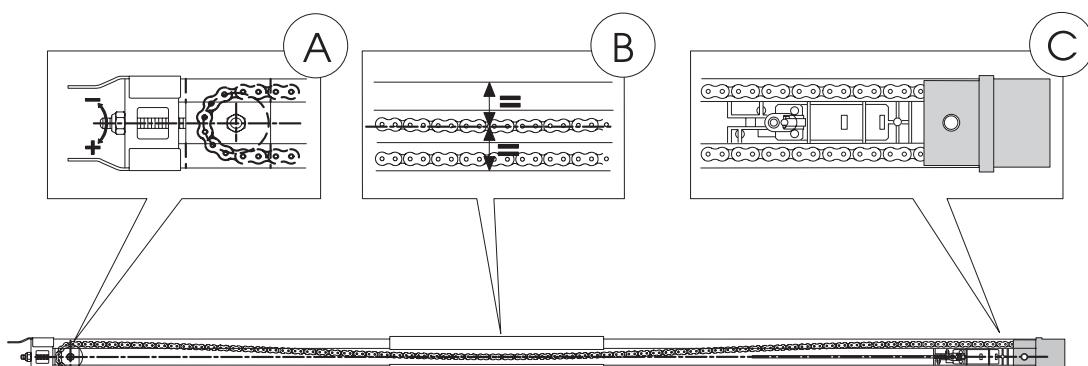

Fig. 8
- Place the sliding guide on the side (Fig. 8).
- Push the carriage toward the drive clutch unit (Fig. 8 ref. C).
- Adjust the tensioner (fig. 8 ref. A) so that the central zone of the loop, formed by the top branch of the chain, coincides with about the mid-point of the sliding guide (Fig. 8 ref. B).